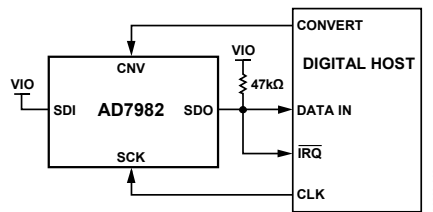
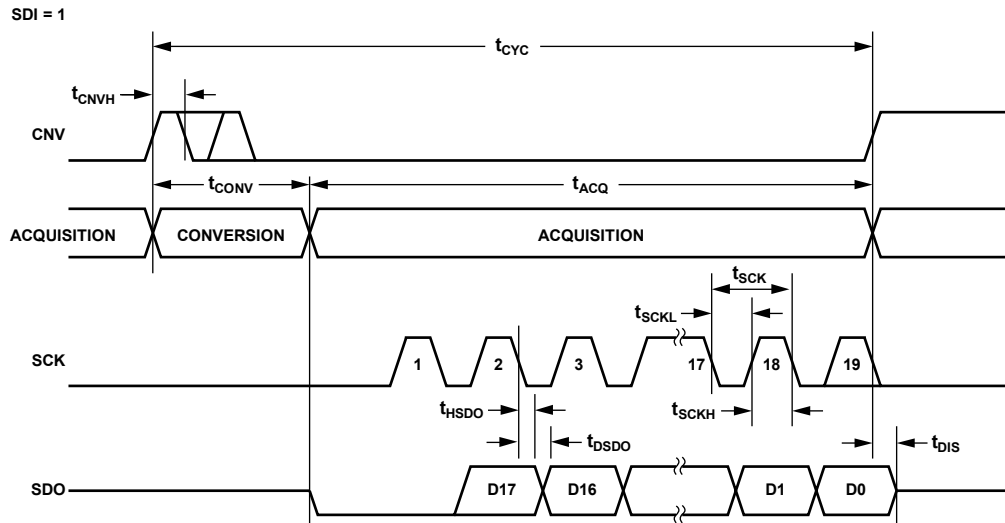
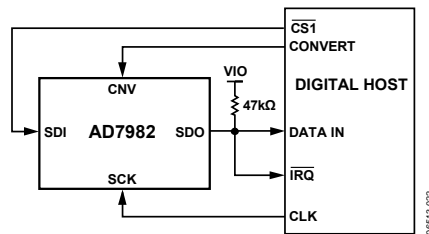
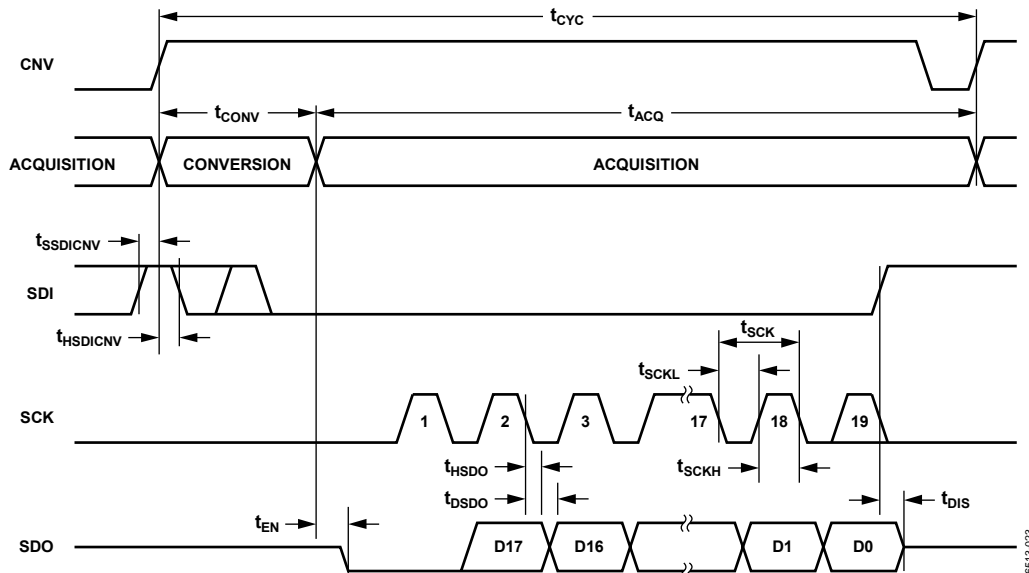

Figure 31. \overline{CS} Mode, 3-Wire with Busy Indicator Connection Diagram (SDI High)
Figure 32. \overline{CS} Mode, 3-Wire with Busy Indicator Serial Interface Timing (SDI High)
Figure 35. \overline{CS} Mode, 4-Wire with Busy Indicator Connection Diagram
Figure 36. \overline{CS} Mode, 4-Wire with Busy Indicator Serial Interface Timing
- In the $\overline{\text{CS}}$ mode if CNV or SDI is low when the ADC conversion ends (see Figure 32 and Figure 36).
The connection diagram is shown in Figure 31, and the corresponding timing is given in Figure 32.
The connection diagram is shown in Figure 35, and the corresponding timing is given in Figure 36.